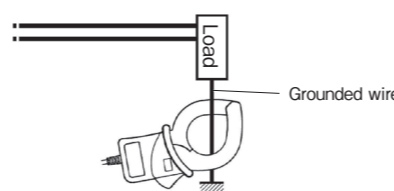

Fig.2 Measuring earth leakage current
- (2) Measuring earth leakage current (See Fig.2):Clamp onto a grounded wire.